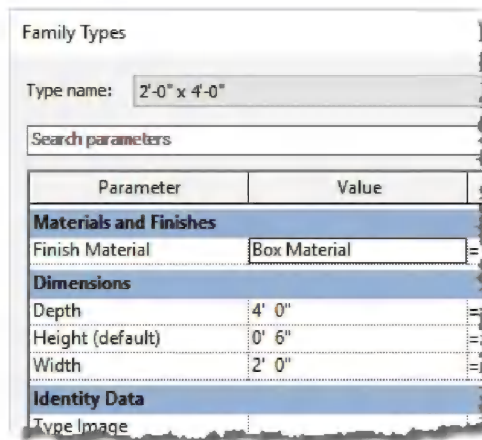

FIGURE 15-5.5A First type settings
- Using the *Name* drop-down list, switch back and forth between the two options; notice the *Parameter Values* change (Figures 15-5.5A and B).